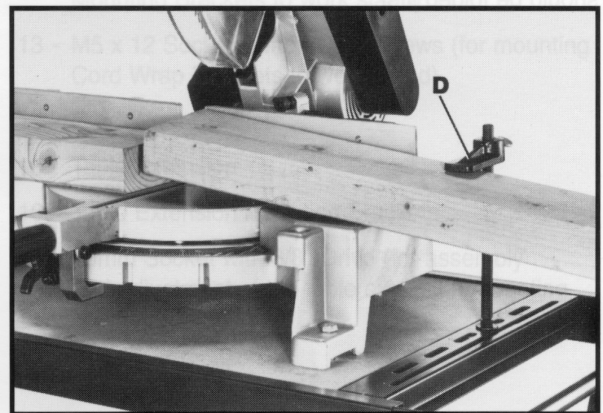

Fig. 24
22. The stock lift inhibitor (D) Fig. 24, is used to prevent the cut-off workpiece from tilting up and falling off the table after it has been cut. It is only effective when the center of gravity of the cut-off piece extends out beyond the roller extension.